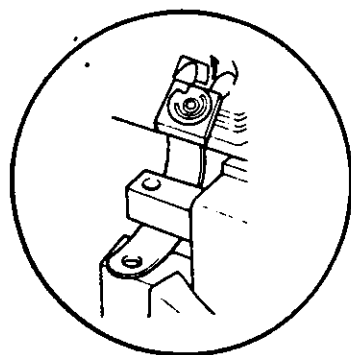

Fig. 31A.
- 10) Fix D portion under the C portion as shown in Fig. 31A.